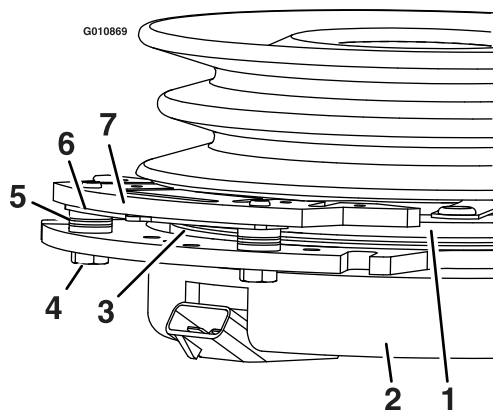

**Figure 69**
3. Remove the dust cap from caster and tighten lock nut (Figure 69).
4. Tighten the locknut until the spring washers are flat and then back off a 1/4 turn to properly set the pre-load on the bearings (Figure 69).
**Important:** Make sure the spring washers are installed correctly as shown in Figure 69.
5. Install the dust cap (Figure 69).